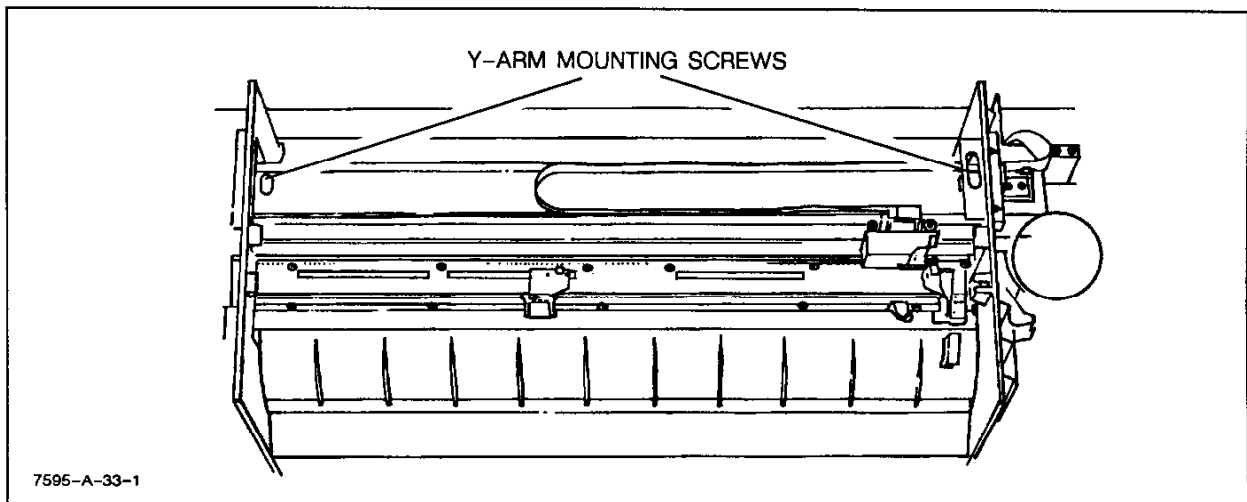
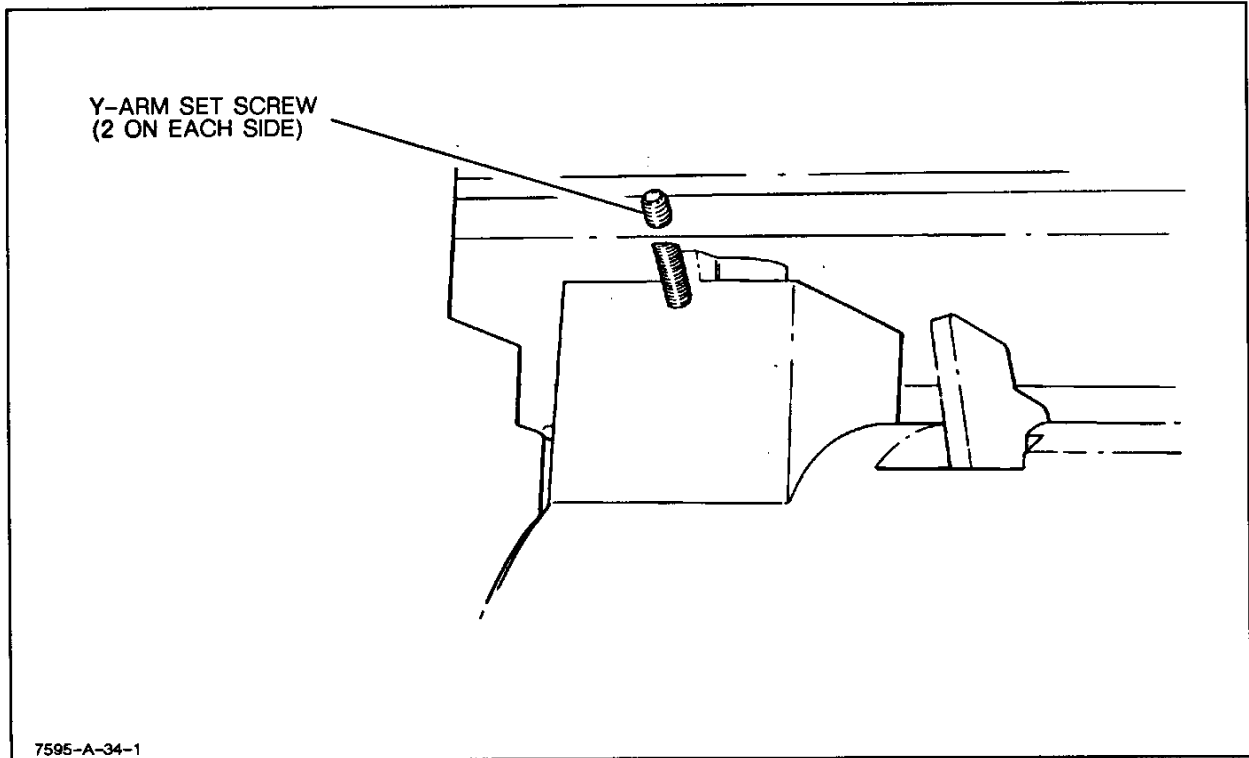

Figure 6-28. Y-Arm Set Screws
Figure 6-29. Y-Arm Removal
- a. Turn the plotter line switch to OFF (O) and disconnect the ac power cord.
- d. Loosen the four set screws (2.0 mm Allen in the front and 1.5 mm Allen in the rear) on the Y-arm. See Figure 6-28 and Figure 6-29 .